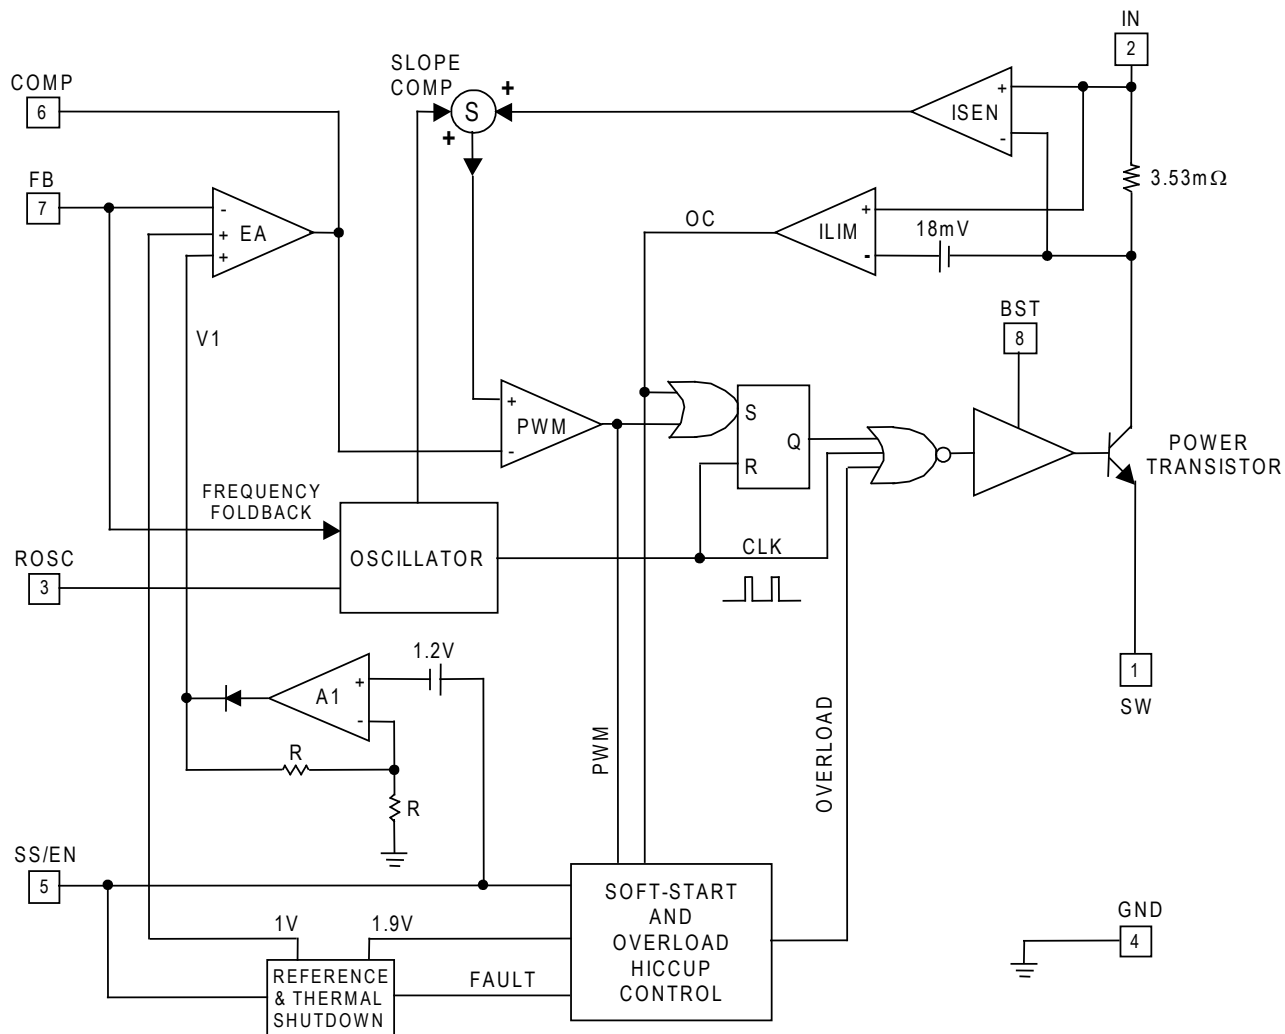

Figure 2 — SC4525EM Block Diagram
As shown in Figure 2, the switch collector current is sensed with an integrated 3.53mΩ sense resistor. The sensed current is summed with a slope-compensating ramp before it is compared with the transconductance error amplifier (EA) output. The PWM comparator trip point determines the switch turn-on pulse width. The current-limit comparator ILIM turns off the power switch when the sensed signal exceeds the 18mV current-limit threshold.
The error amplifier EA in Figure 2 has two non-inverting inputs. The non-inverting input with the lower voltage predominates. One of the non-inverting inputs is biased to a precision 1V reference and the other non-inverting input is tied to the output of the amplifier  $A_1$ . Amplifier  $A_1$  produces an output  $V_1 = 2(V_{SS/EN} - 1.2V)$ .  $V_1$  is zero and COMP is forced low when  $V_{SS/EN}$  is below 1.2V. During start up, the effective non-inverting input of EA stays at zero until the soft-start capacitor is charged above 1.2V. Once  $V_{SS/EN}$  exceeds 1.2V, COMP is released. The regulator starts to switch when  $V_{COMP}$  rises above 0.4V. If the soft-start interval is made sufficiently long, then the FB voltage (hence the output voltage) will track  $V_1$  during start up.  $V_{SS/EN}$  must be at least 1.83V for the output to achieve regulation. Proper soft-start prevents output overshoot. Current drawn from the input supply is also well controlled.
becomes armed. As the load draws more current from the regulator, the current-limit comparator ILIM (Figure 2) will eventually limit the switch current on a cycle-by-cycle basis. The over-current signal OC goes high, setting the latch B3. The soft-start capacitor is discharged with (ID - IC) (Figure 3). If the inductor current falls below the current limit and the PWM comparator instead turns off the switch, then latch B3 will be reset and IC will recharge the soft-start capacitor. If over-current condition persists or OC becomes asserted more often than PWM over a period of time, then the soft-start capacitor will be discharged below 1.9V. At this juncture, comparator B4 sets the overload latch B2. The soft-start capacitor will be continuously discharged with (ID - IC). The COMP pin is immediately pulled to ground. The switching regulator is shut off until the soft-start capacitor is discharged below 1.0V. At this moment, the overload latch is reset. The soft-start capacitor is recharged and the converter again undergoes soft-start. The regulator will go through soft-start, overload shutdown and restart until it is no longer overloaded.
The PWM latch in Figure 2 is reset every cycle by the clock. The clock also turns off the power transistor to refresh the bootstrap capacitor. This minimum off time limits the attainable duty cycle of the regulator at a given switching frequency. The measured minimum off time is 138ns typically. If the required duty cycle is higher than the attainable maximum, then the output voltage will not be able to reach its set value in continuous-conduction mode.